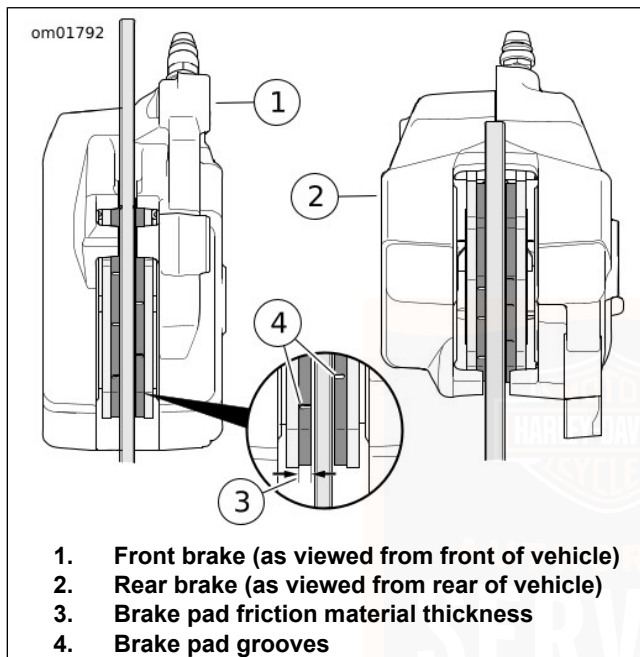

Figure 79. Brake Pad Friction Material
1. See Figure 79. Check the brake disc as it spins. The disc should run true in the brake caliper.